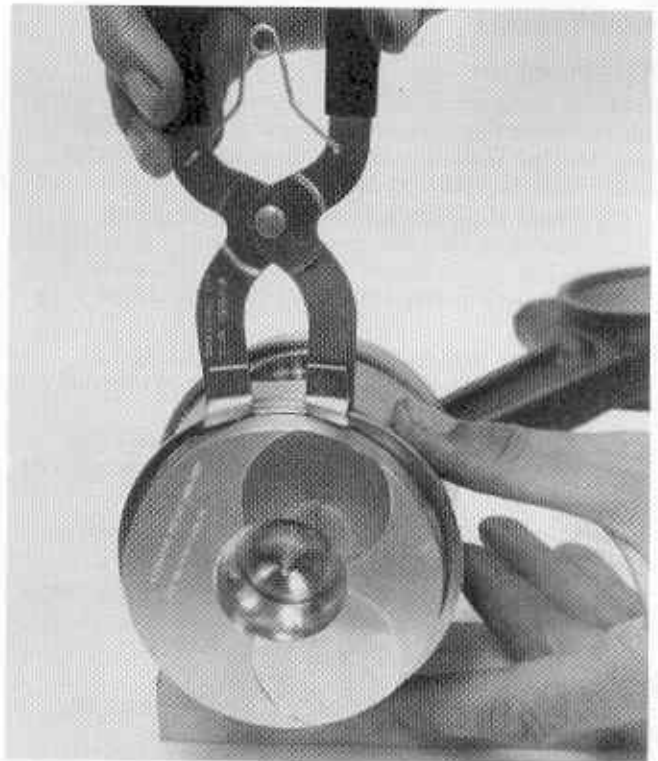
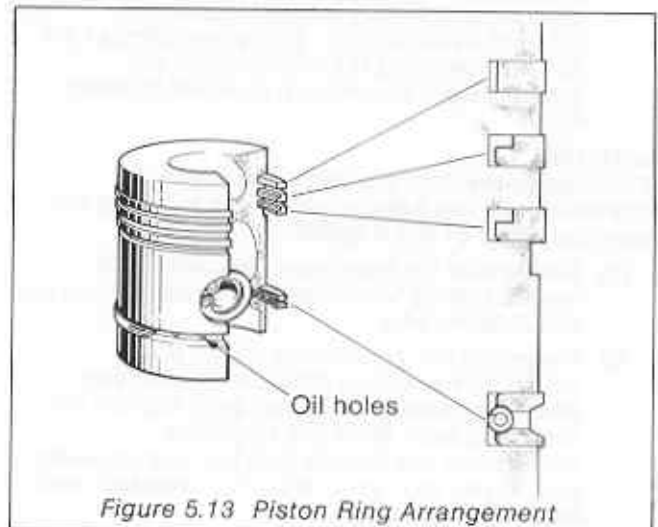

Figure 5.12 Piston Ring Removal
Figure 5.13 Piston Ring Arrangement
- (1) Remove the rings from the piston as shown in Figure 5.12 noting the order of assembly and which ring face is uppermost.
- (2) Remove all the carbon deposit from the rings and ring grooves. The small holes in the scraper ring grooves should receive attention as their purpose is to return excess oil to the sump.
- (3) Insert the piston into the cylinder bore with the crown towards the bottom end of the bore and about 13 mm (0.5in.) from the bottom edge. Insert the rings one at a time, pushing each ring hard up against the piston crown to ensure that it is level in the cylinder bore. Withdraw the piston sufficiently to allow the gap to be measured with a feeler gauge. The piston ring gap must not exceed 1.52mm (0.060in.). If necessary the rings must be renewed.
- (4) Assemble the rings on the piston in the correct order with the correct face uppermost, as shown in Figure 5.13. rings should not be slack or stuck fast in the groove.
- (5) When the engine has been fully run in, the bore will have a highly polished and very hard